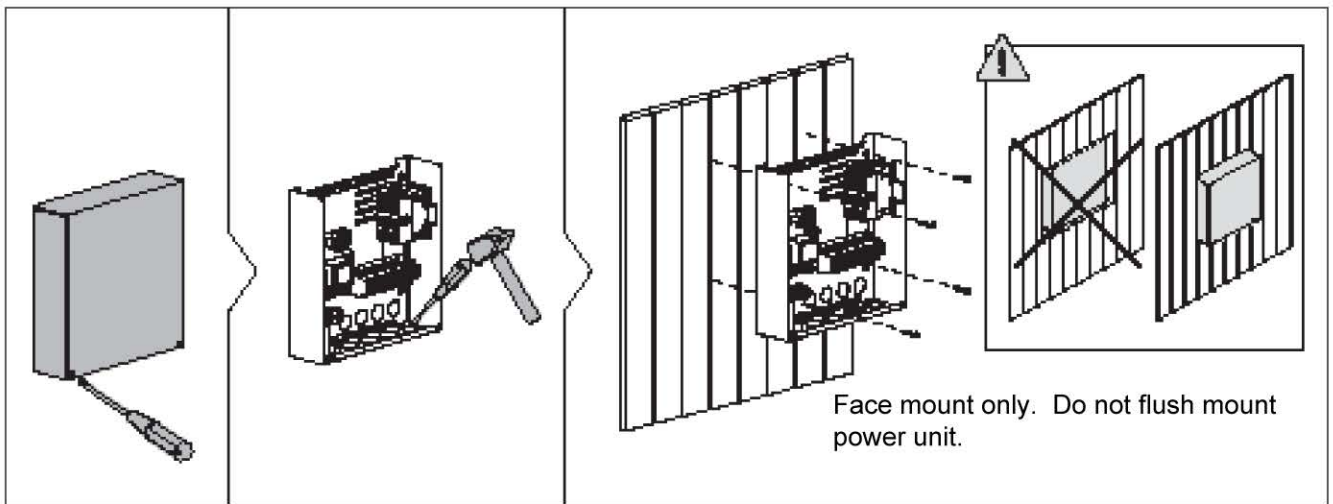

Figure 5. Opening the power unit cover and mounting the unit to a wall
Install the power unit to a wall outside the sauna room, in a dry place with an ambient temperature of  $>32\text{ }^{\circ}\text{F}$  ( $>0\text{ }^{\circ}\text{C}$ ). See Figure 5 for instructions on how to open the power unit cover and how to fix the unit to the wall.
**Note!** Do not embed the control unit into the wall, since this may cause excessive heating of the internal components of the unit and lead to damage. See Figure 5.